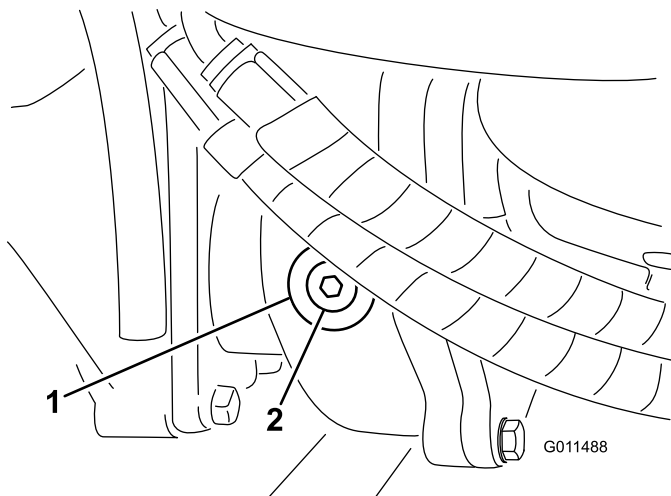

Figure 16
2. Remove the check/fill plug from the left side of the gear box (Figure 16) and make sure that lubricant is up to the bottom of the hole. If the level is low, add enough lubricant to bring the level up to the bottom of the hole.